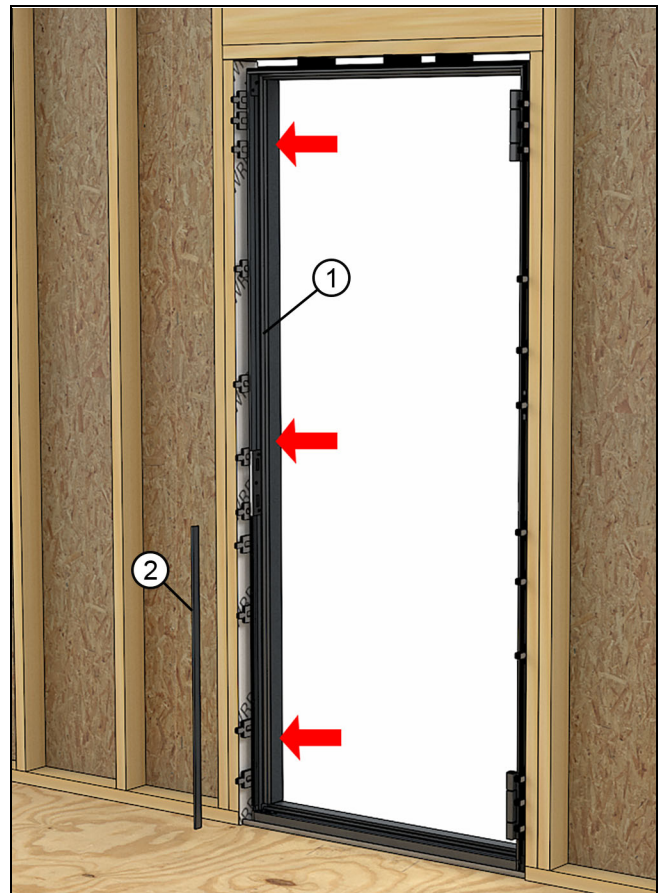

Figure 51 X Configuration
15. Lock Jamb Configurations: Install the aluminum locking jamb cover between the jamb strike and the sill. See Figure 51.